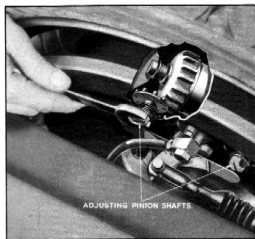

Fig. 13—Adjusting 1½-Ton Truck Rear Brakes
1. Turn the adjusting pinion in a clockwise direction until the shoe causes a slight drag on the brake drum, as shown in Fig. 13.